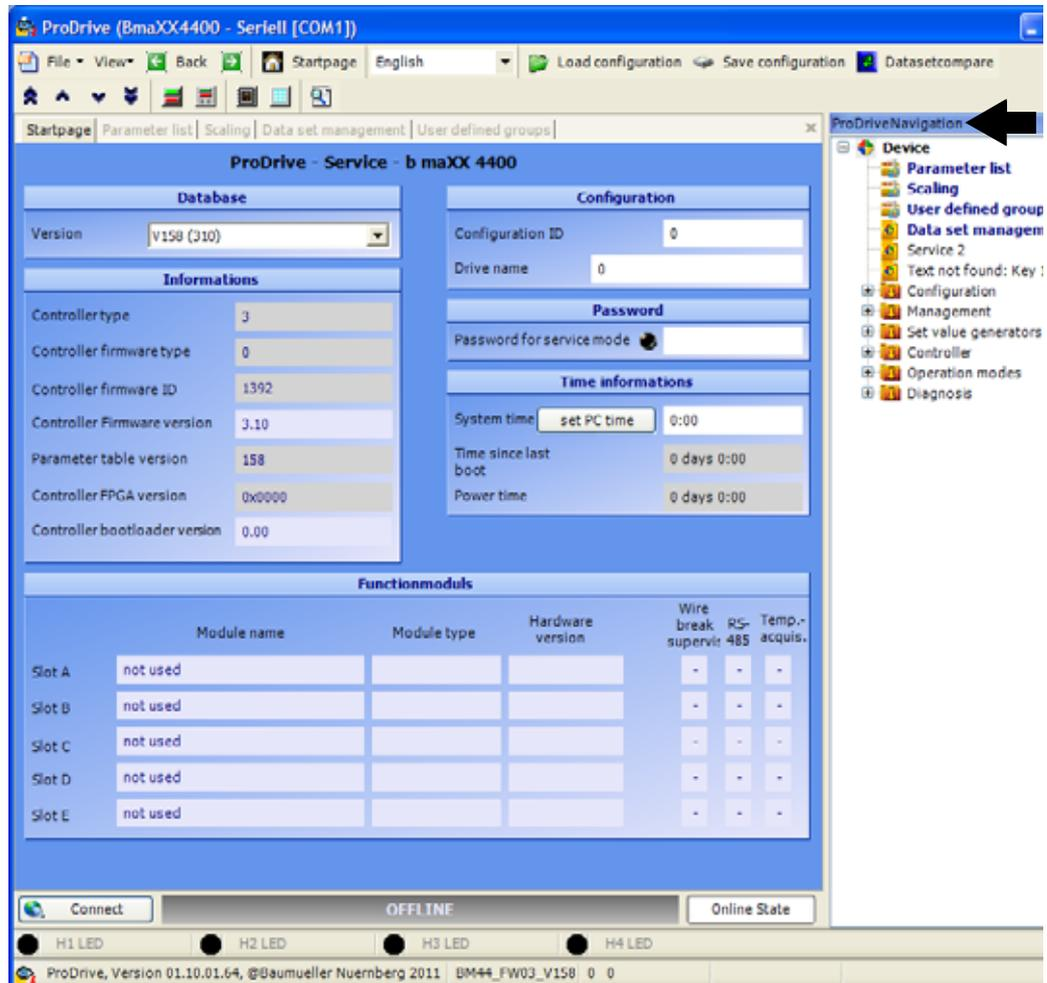

Figure 22: ProDrive: Startpage
15 Then press 'test' (3). If an online connection with the b maXX device is generated, then an according session (4) is shown. The shown version and the version of the device have to match. If you press 'Connect' (see ►Figure 22◄ on page 40) and the versions don't match the error message 'version conflict' will appear. This conflict can be solved by the offered XML data update.